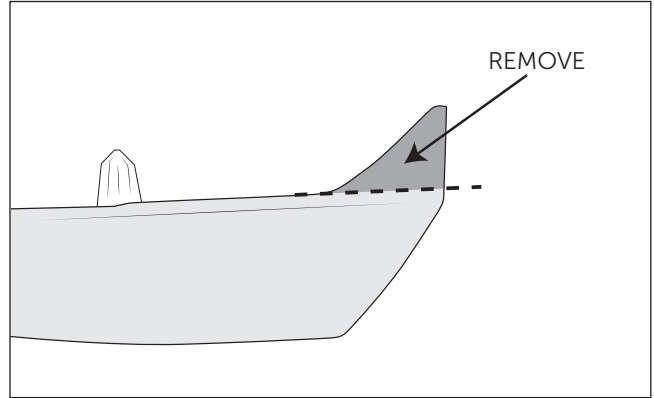

Figure 9
- B. Trim the front edge of the fender flares to sit flush (fig. 9).